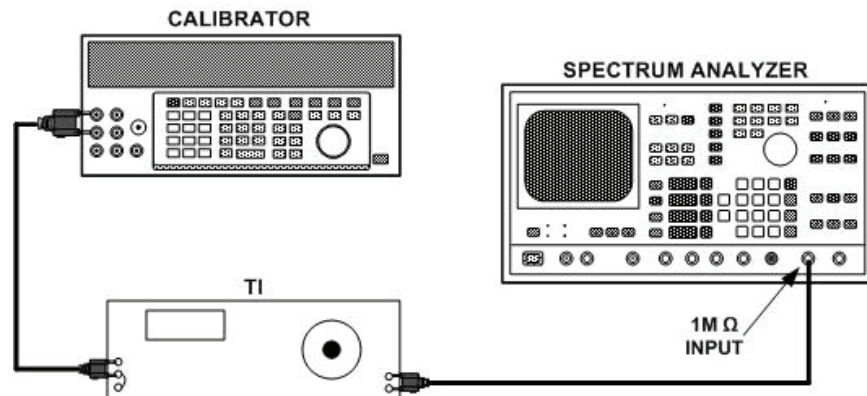

Figure 4. Fundamental frequency rejection (alternate method) - equipment setup.
(1) Connect equipment as shown in figure 4.